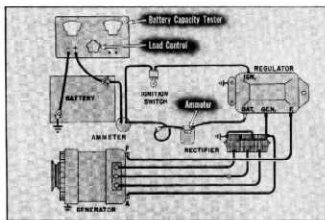

Fig. 53
- To test current setting by the load method, operate the engine at 1500 RPM. With an ammeter connected (fig. 53), increase the load across the battery until the ammeter reading
NOTE: The current reading must be taken from the ammeter that is inserted into the charging circuit—shown on (fig. 53) with a white label. The ammeter that's already in the vehicle, of course, is not calibrated for an accurate reading; and the ammeter in the battery capacity tester is not correctly connected to give a charging circuit reading.